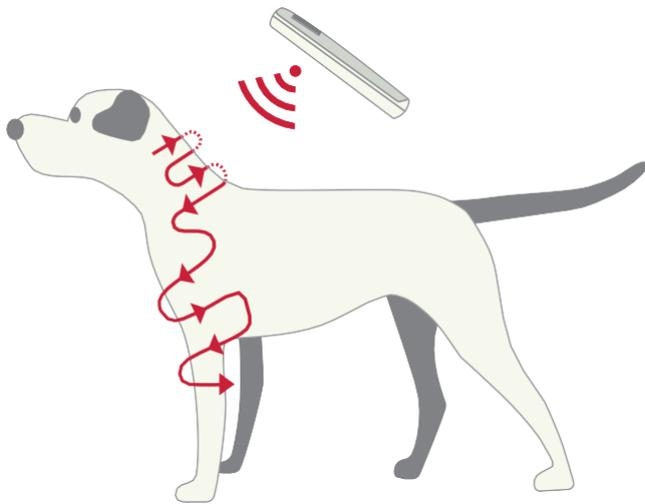
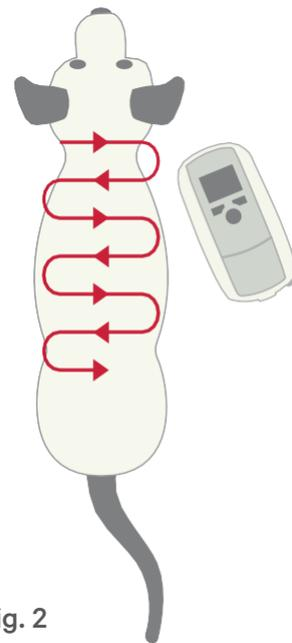

Fig. 1
Fig. 2
For optimal reading, keep the scanner parallel to the animal's body (see Fig. 1) and avoid pointing it directly at the animal. Scanning should be performed slowly and over the entire body holding the scanner close to or touching the animal skin/fur.
- Scan the animal performing a vertical "S" pattern down the animal's body or animal side starting from the neck, as shown in fig. 1 and fig. 2.